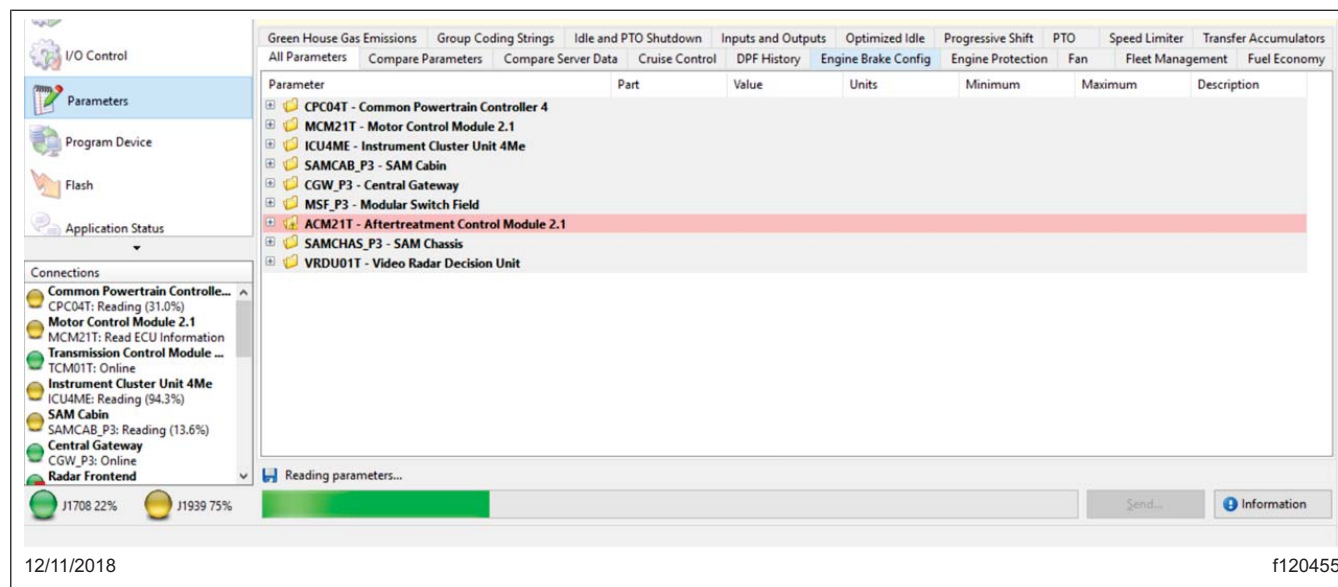

Fig. 4, Reading Vehicle Parameters on DiagnosticLink
5. Once all controllers are connected, click the "Parameters" icon on the left hand side of the screen to read the vehicle parameters. See Fig. 4.